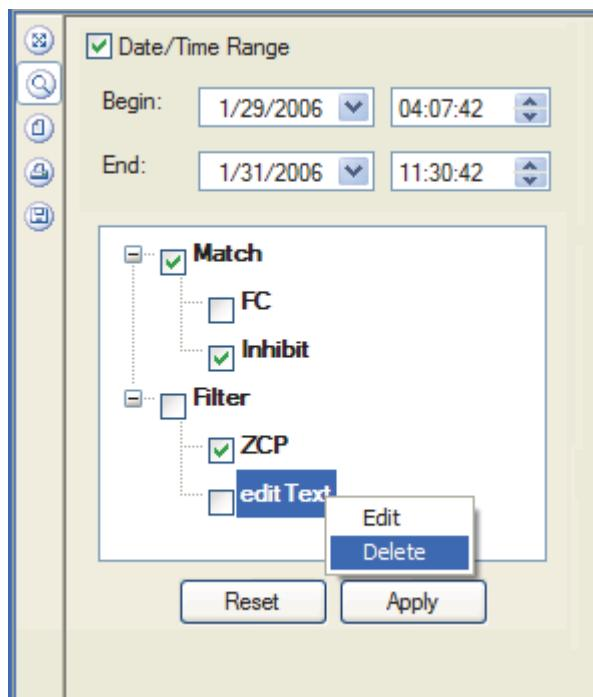

Figure 2-7. Messages Tab Filtering Controls
1. Click in the tab toolbar to display filtering controls in the tab (Figure 2-7).
As set in Figure 2-7, the Messages tab will display any message that includes the string Inhibit, but it will not apply the match string FC.